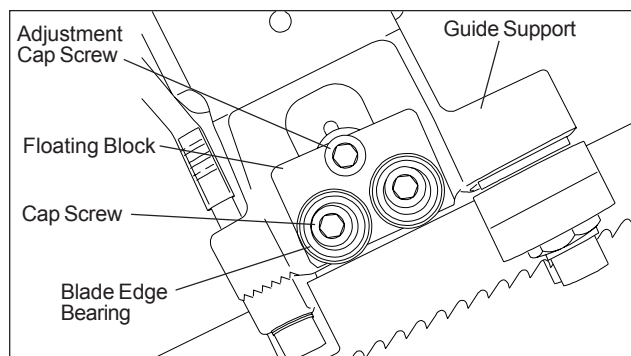

Figure 20: Blade Edge Bearing Replacement
Replacement of Blade Edge Bearings (see figure 20)
2. Remove the attaching screw, spring washer and washer. Remove and discard the brush (see figure 20).